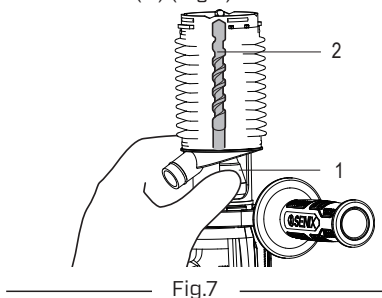

Fig.7
The dust collection shroud exposes the chuck collar (1) when correctly installed. Pull the chuck collar (1) down to install or remove the SDS-Plus drill bit (2) (Fig.7).